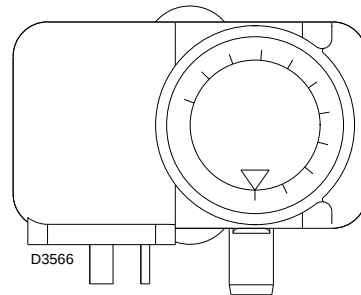

Fig. 6
5.3 Pressure switches calibration (Fig. 6)